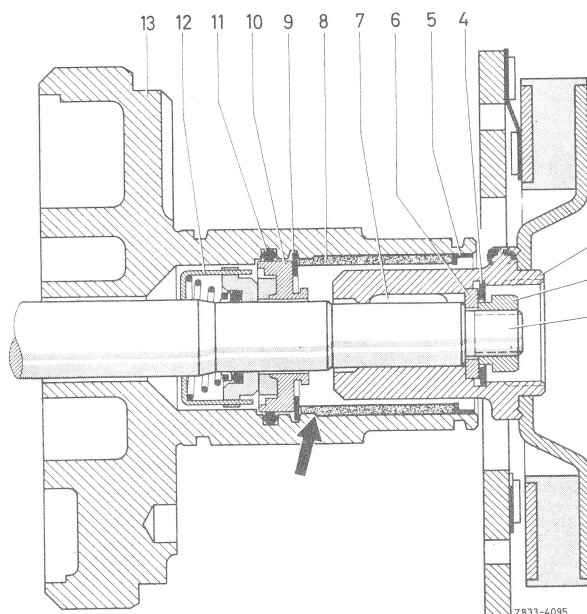

Figure 5
13 Fit spacer (6) into hub of spring plate (2) and place locking ring (4) with its flat side facing the spacer (6) (Fig. 5).
spacer (6) (Fig. 5). Hold spring plate in position with holding tool (2) and tighten counter-nut. The clearance between the two friction surfaces of the pulley and the spring plate should now amount to 0.5 to 1.5 mm (Fig. 1 and 6).
- 1 Remove spring plate (refer to section a, item 1 to 5).
- 2 Remove locking ring (2) and retaining ring (5) (Fig. 5 and 7).
- 2 Remove retaining ring (5) and felt ring (8) (Fig. 5 and 11).
- 3 Remove locking ring (9) for shaft seal (Fig. 5 and 12).
- 4 Remove slip ring (3 and 9) using remover/installer (2) (Fig. 5 and 13).
- 5 Remove shaft seal (2 and 11) using tool (3) (Fig. 5 and 14). For this purpose, press tool down and twist clockwise to engage tabs on shaft seal with locking tangs on tool. Remove seal completely by pulling seal straight off the shaft.
- 6 Remove O-ring (11) from inside bore in front head of compressor. A length of wire bent to form a hook may be used for this purpose (Fig. 5 and 11).
8 Install new O-ring (11) into groove in bore of head (13), making sure that the sealing ring is fitted into the lower groove (Fig. 5).
10 Insert shaft seal (2 and 12) into tool (3) and push onto compressor shaft. Turn tool right until the shaft seal snaps into position on the shaft. Now turn tool left to disengage from shaft seal tabs and remove (Fig. 5 and 14).
11 Install slip ring (3 and 10) into bore of front head using tool (2) until ring touches shaft seal. Make sure that the O-ring (11) is not displaced from its groove (Fig. 5 and 13).
12 Insert locking ring (9) into bore with the flat side facing downwards until the locking ring rests against the sliding ring (Fig. 5 and 12). Then use snap ring pliers or screw driver to press against the locking ring until ring snaps into place in the groove.
Note: The step (see arrow) which is visible from the end of the bore is not a groove but a projection (Fig. 5).